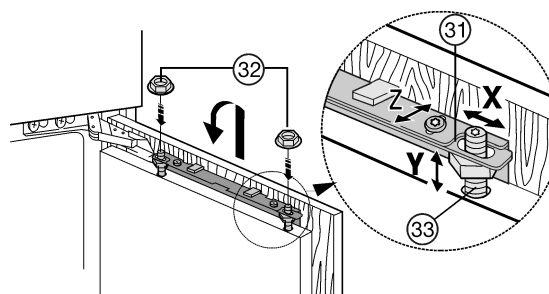

Fig. 27
- ▶ Attach the unit door on the adjusting bolts Fig. 27 (33) and loosely screw the locknuts Fig. 27 (32) onto the adjusting bolts.
- ▶ To align the unit door in height and in lateral inclination: Adjust the adjusting bolts Fig. 27 (33) with a screwdriver.
- ▶ Tighten the locknuts Fig. 27 (32).